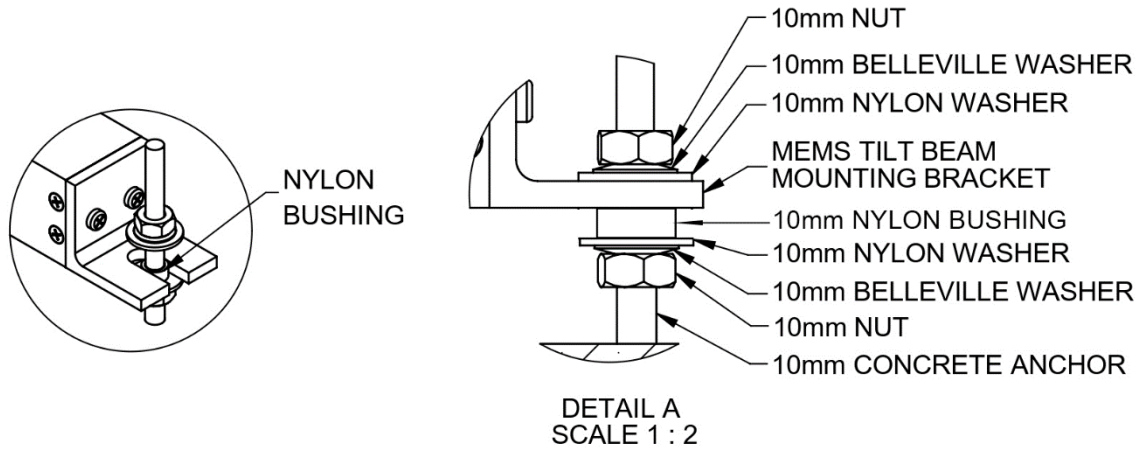

Figure 6: Single Tilt Beam Bolting Diagram
- Referring to the bolting diagram in Figure 6, follow steps 3 – 9: